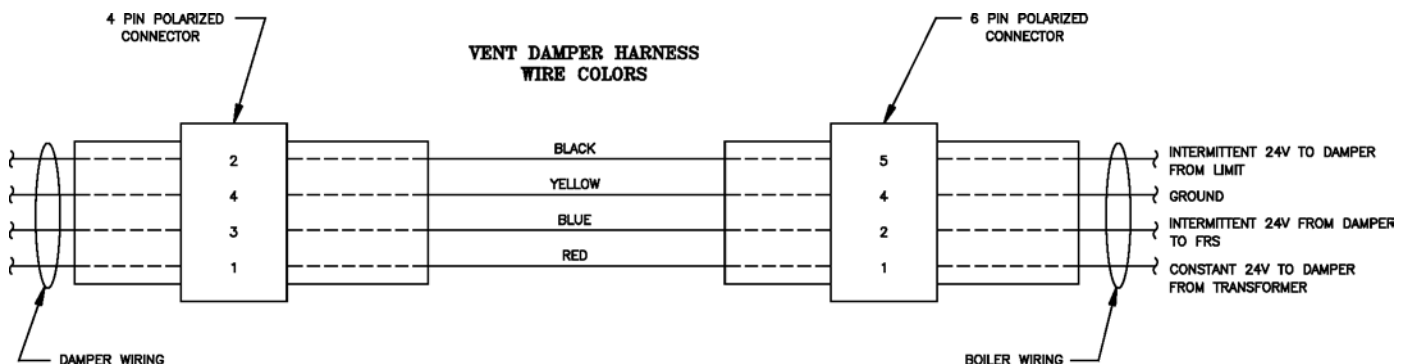

Figure 28: Vent Damper Schematic Wiring Diagram
- F. Vent Damper Sequence of Operation.** See Figure 28 for schematic wiring diagram.